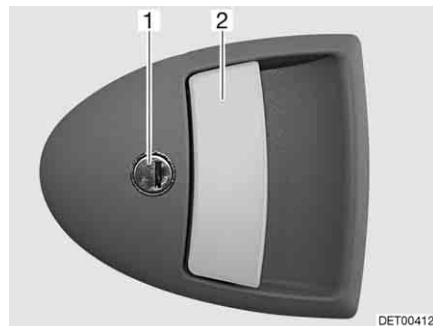

Fig. 45 Door lock of conversion door, outside
- Insert the key into locking cylinder (Fig. 45,1) and turn until the door lock is unlatched.
- Pull on the handle (Fig. 45,2). The door is open.
- Insert the key into locking cylinder (Fig. 45,1) and turn until the door lock is engaged.